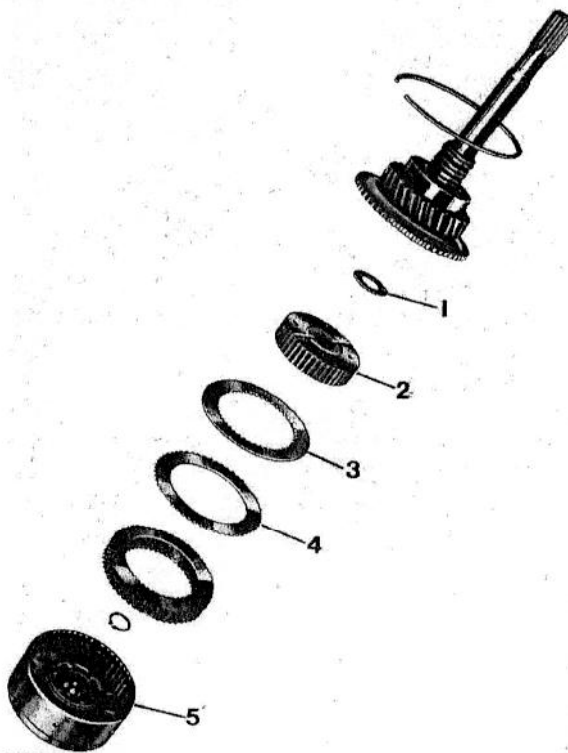
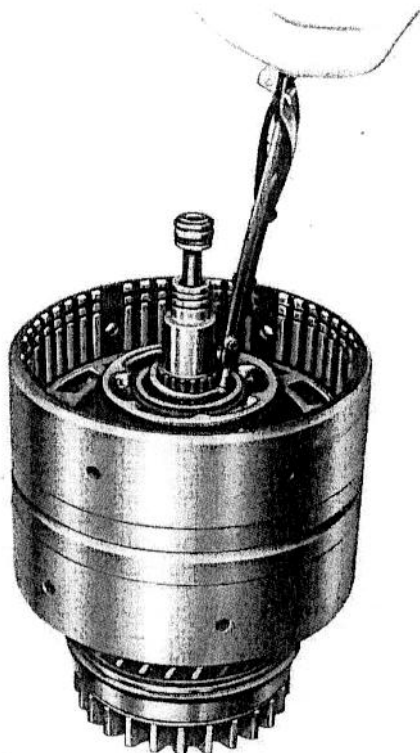

FIG. 16
FIG. 17
4. (Fig. 16) Remove the thrust washer (1).
5. Lift out the forward clutch hub (2) which is splined to the driven plates of the clutch and to the output shaft.
6. Remove the sintered bronze driven plates (3) and the dished steel drive plates (4) from the clutch drum (5).
7. (Fig. 17) Remove the small circlip retaining the forward clutch.